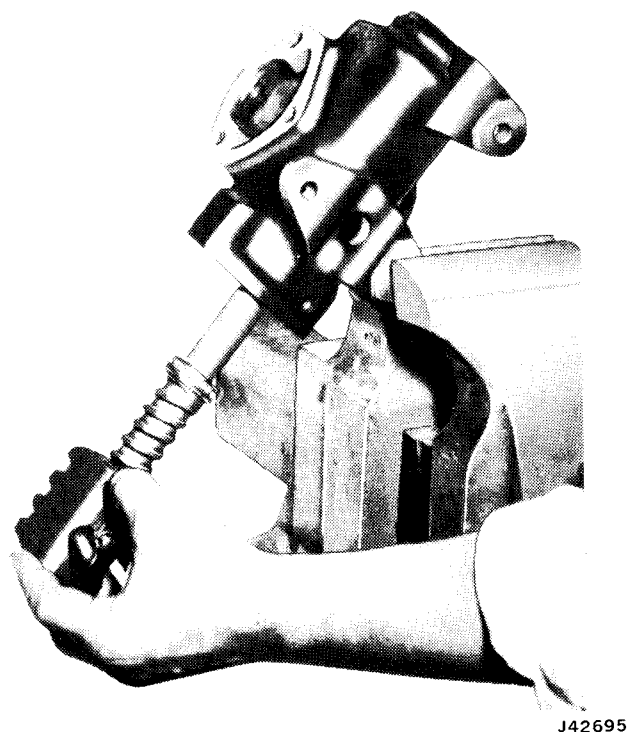

Fig. 11-51 Wormshaft and Ball Nut Removal
(7) If bearing is damaged, pry retainer out with screwdriver. Remove bearing from worm adjuster.
(8) Remove assembled wormshaft, ball nut, and upper worm bearing from housing (fig. 11-51). Do not